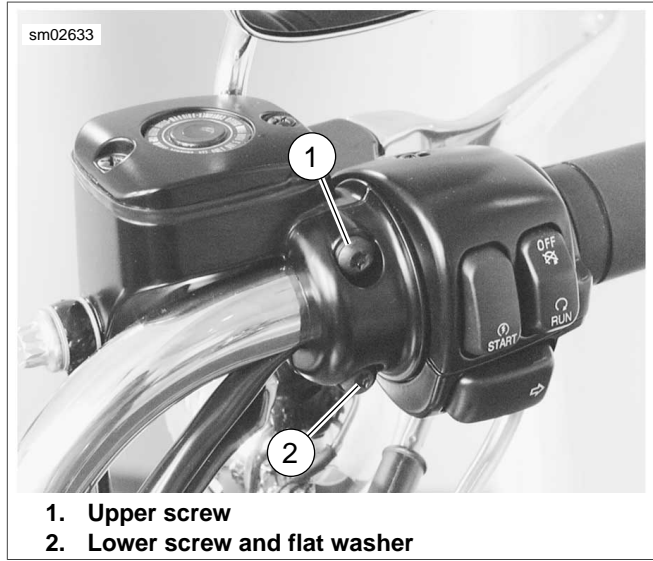

Figure 7-90. Handlebar Switch Clamp Screws
4. See Figure 7-90. Using a T27 TORX drive head, loosen the upper screw (1) securing the handlebar switch clamp to the master cylinder housing. Remove the lower clamp screw with flat washer (2).